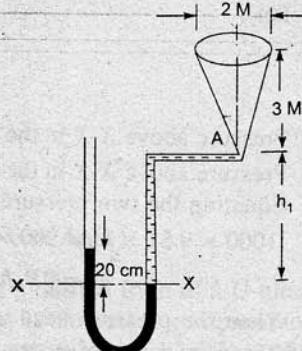

Fig. 2.12
**Problem 2.12** Fig. 2.12 shows a conical vessel having its outlet at  $A$  to which a U-tube manometer is connected. The reading of the manometer given in the figure shows when the vessel is empty. Find the reading of the manometer when the vessel is completely filled with water. (A.M.I.E., Winter 1975)